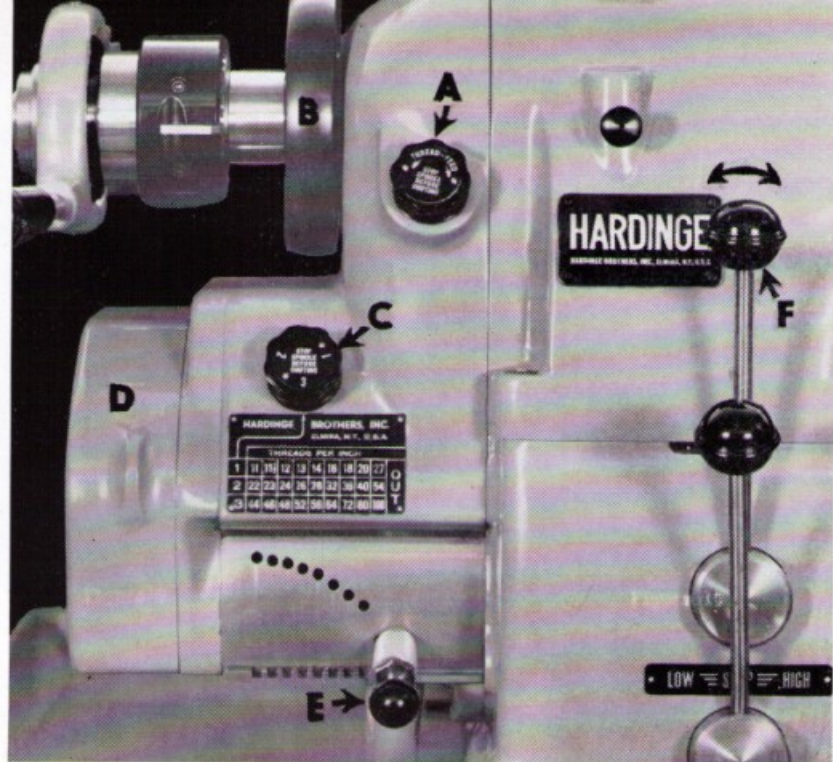
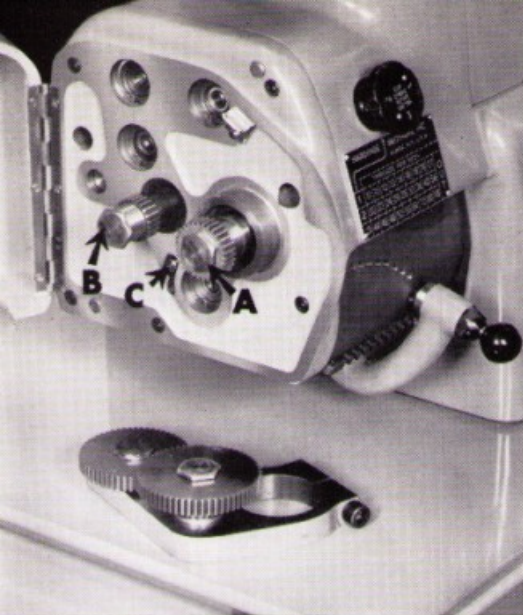

Figure 19
Figure 20
### GEAR BOX FOR THREADING ONLY — Figure 19
To engage the gear box turn knob "A", Figure 19, counterclockwise in the direction of arrow marked "THREAD". When turning knob "A" the teeth of the sliding gear within the gear box may not mesh with the headstock spindle gear teeth. If so, turn the headstock spindle by means of spindle handwheel "B", Figure 19.
**IMPORTANT:** Before turning spindle, release spindle brake to obtain free spindle — see instructions on Page 13. While turning spindle also turn knob "A", Figure 19, to left until a definite click is heard.
**IMPORTANT:** Knob "A", Figure 19, should always be set in the "Feed" position except when threading, thus disconnecting gear box from headstock spindle.
Knob "C", or three change knob, Figure 19, has three numbered positions — 1, 2 and 3. These numbers correspond with the 1, 2 and 3 given at the extreme left side of the gear box thread chart plate. To select the proper thread, numbers 1, 2 or 3 on knob "C" must be set at the bottom position to line up with the pointing arrow. The knob is shown in the number 3 position in Figure 19. The tumbler or nine change handle "E" has nine positions — each lining up with gear box thread chart plate. Combining the three positions of the three change knob and nine positions of the tumbler handle, 27 changes are obtained.
### THREE CHANGE KNOB — Figure 19
When number one of knob "C", Figure 19, is in line with the arrow, any thread in row one of thread chart can be selected by changing the tumbler handle or nine change handle "E", Figure 19, to the desired thread in that row.
The three change knob "C", Figure 19, controls a sliding gear cluster. Number three on the knob, when lined up with the arrow on gear box chart, is in the center position. To place knob "C" in the number one position, turn to "RIGHT". Turn to "LEFT" to place number two position in line with arrow.
In the event the sliding gear cluster does not engage the other gears in the gear box properly to bring the desired number on three change knob "C" in line with arrow, open the change gear cover "D", Figure 19, and turn shaft "A", Figure 20, Page 33, by hand until the gears mesh properly.
To make a selection on the gear box thread chart, pull the spring pressured black knob "E", Figure 19, out as far as it will go and lower until it will move sideways to the desired notch directly under the thread required. Raise the handle and let plunger drop into hole. If the tumbler handle will not raise far enough to drop plunger into hole, open change gear cover and rotate shaft "A", Figure 20, see opposite page, until gears mesh and handle raises permitting plunger to seat.
Fastened to the tumbler handle bracket within the gear box is a 5/16" round safety bar "C", Figure 20, that extends out through a hole in the left side of the gear box. This bar is to prevent applying change gears outside the gear box until the tumbler handle is placed in the "OUT" position.
### OUTSIDE CHANGE GEARS — Figures 20 and 21
The outside change gears are used to cut threads not provided in the quick change gear box. A set of five gears and a bracket are standard equipment with each machine. These gears, when set up to the gear chart — see Page 34, will cut 10 threads per inch. Three of the gears are shipped on the bracket and the other two are in place on the shafts as shown in Figure 20, one on the end of the lead screw shaft "A", and the other on the end of the sliding cluster gear shaft "B".